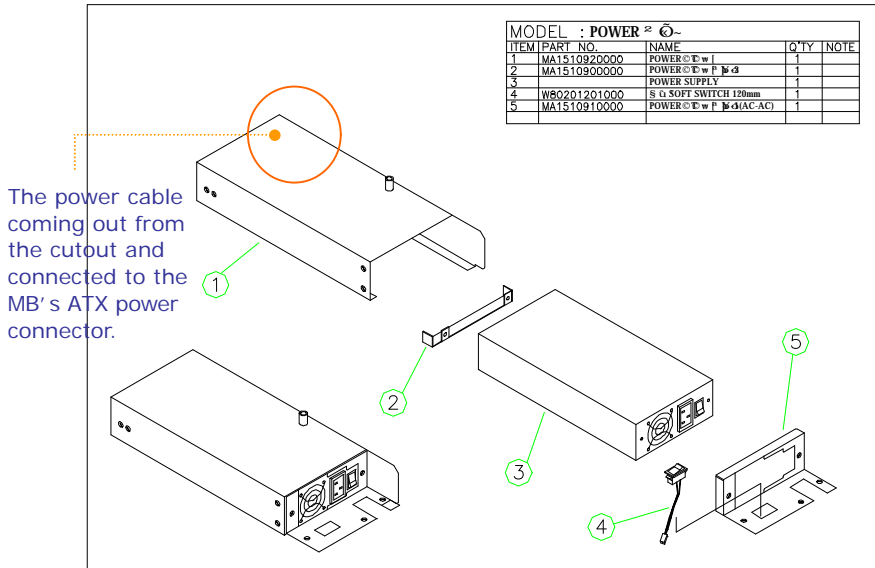

FIGURE 5-11: APOLLO AC POWER MODULE
1. Refer to Figure 5-11. Attach the power fix bracket (2) to the power supply (3) and fix them together with 2 FMS screws (3\*5). This small bracket is used to prevent the power supply from moving around in the power bracket.
2. Insert the power supply to power bracket (1) and fix them together with four 3\*5 screws.
4. Insert the power switch (4) to power bracket (5). The other end of the switch cable is to be connected to the 2-pin POWER ON switch, SW1 on the motherboard.